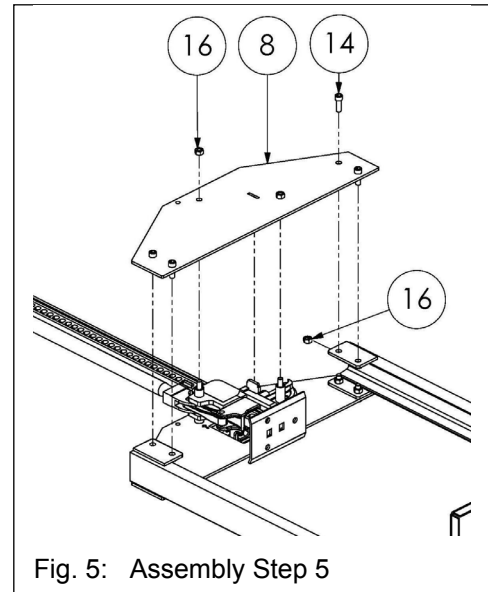

Fig. 5: Assembly Step 5
**Step 5:** Fasten the back jack plate (8) onto the vertical supports (5) using #14 bolts and 7/16-14 nylock nuts (Fig. 5). Make sure jack center support (9) aligns with the slot on back jack plate. Twist nylock nuts (16) onto the ends of the bolts to secure the jack in place.